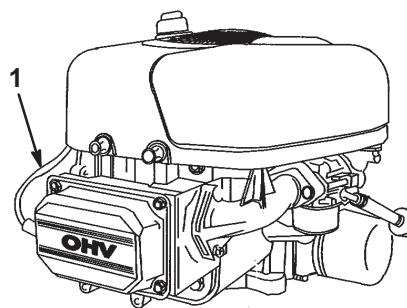

Figure 20
6. Disconnect the wire from the spark plug (Fig. 20).
3. Connect the wire to the spark plug (Fig. 20).